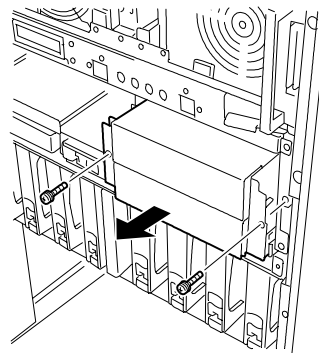

Figure 4-45. Removing the 5 1/4-inch Device Tray
5. Remove the two screws securing the 5 1/4-inch device tray to the BSU chassis and remove the tray, see Figure 4-45.